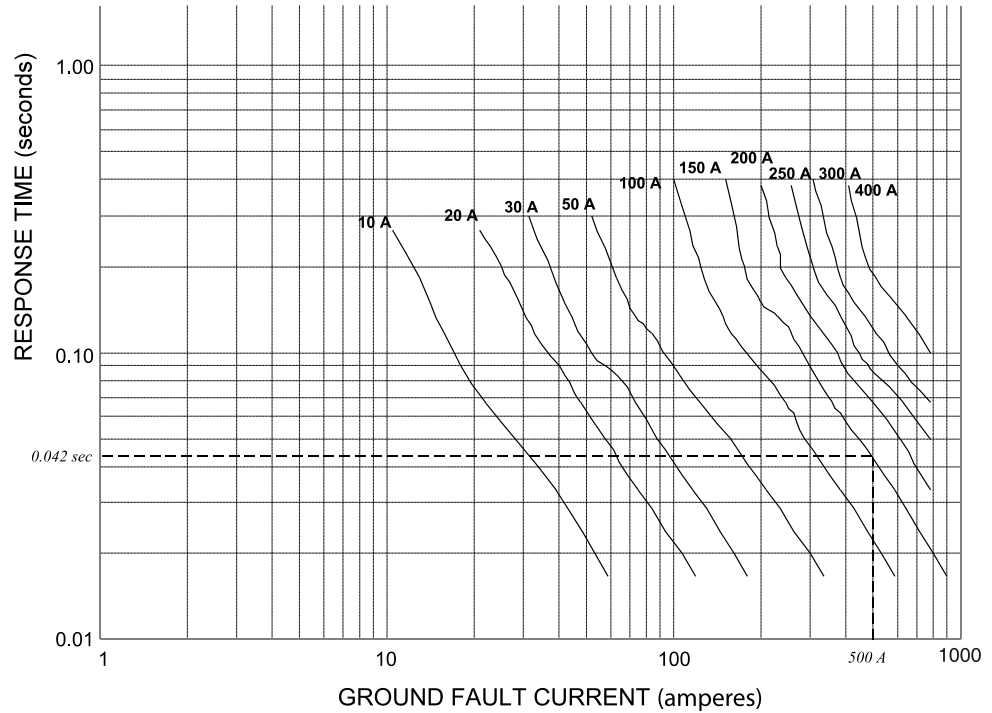
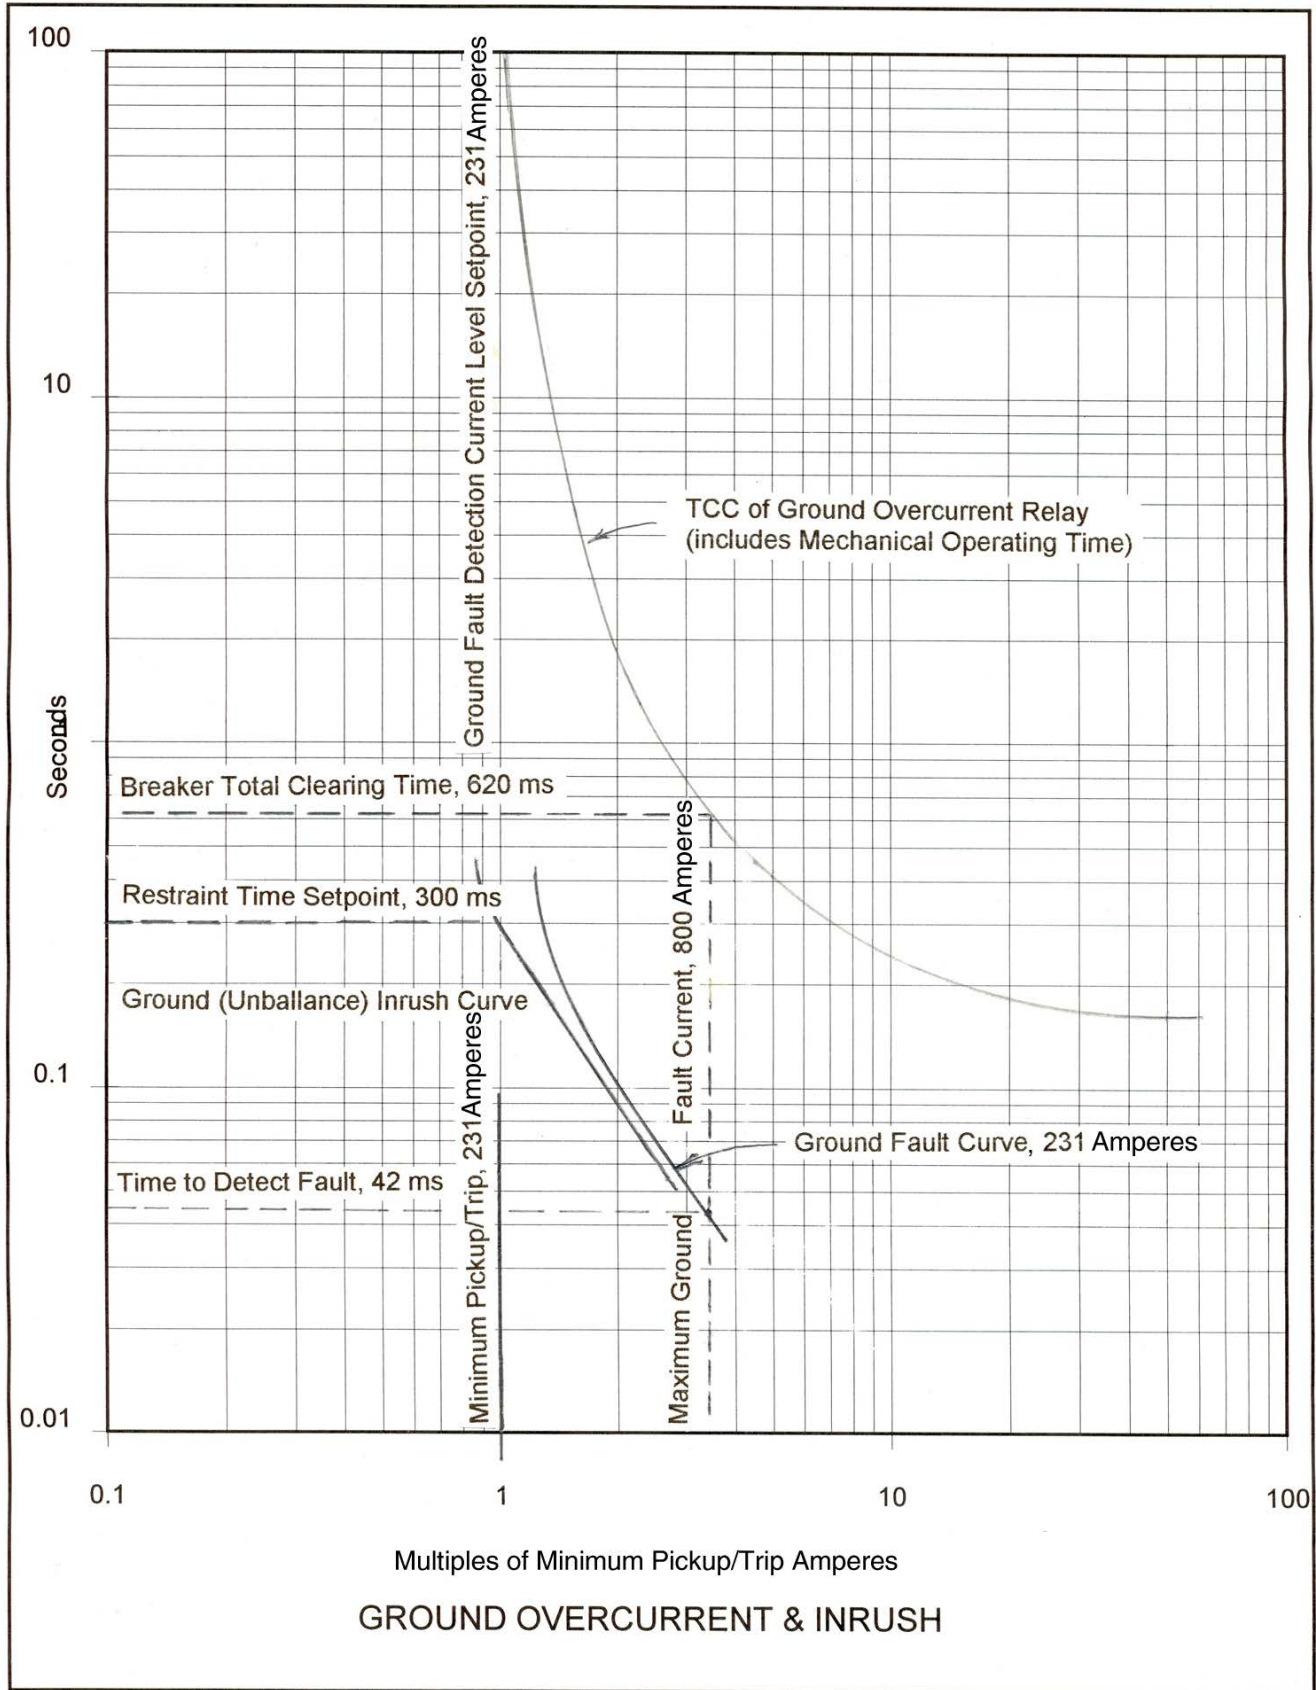

Figure 11. The Time-Current Characteristic curve for ground-fault detection.
Figure 13. Coordination Sheet for ground overcurrent and inrush.
of a shorter duration than the sampling rate will be detected. The net response of this circuit is similar to the Time Current Characteristic (TCC) curves of a protective relay. See Figure 11. The curves show that, with a **Ground-Fault Detection-Current Level** setting of 150 amperes, the control detects a 600-ampere fault in 34 ms. With a **Ground-Fault Detection-Current Level** setting of 231 amperes, the control detects an 800-ampere fault in 42 ms. See page 24 for guidance in generating additional ground curves by interpolation. The ground-fault detection characteristics are controlled by the **Ground-Fault Detection-Current Level** and **Ground-Fault Duration-Time Threshold** setpoints.
To determine the proper setting, review the source-side protective device's ground TCC curves for a range of fault duty, up to the maximum available ground-fault current at the sectionalizing switch. The control must be able to detect the fault prior to the source-side protective device tripping. See Figure 13 on page 24.
- (b) Find the control time-current coordination curve in Figure 11 on page 20 for that minimum ground-trip current.
- (c) Compare the TCC curves shown in Figure 11 to the TCC curve for the protective device. The curve for the protective device should include the mechanical-operating time. See Figure 13 on page 24. The switch control response time should be set less than 75% of the source-side protective device's total clearing time for fault-current values up to the maximum line-to-ground fault current at the control. To compare times, select several fault-current values between the **Ground-Fault Detection-Current Level** setpoint and maximum-available faults at the control. For each fault-current value selected, determine the response and clearing times from the TCC curves. In each case, the control-response time should be less than 75% of the source-side protective-device clearing time.
When the **Ground-Fault Current-Detection Level** value is not found on an existing curve, estimate the points and plot them on the coordination sheet (Figure 11) with the source-side protective-device TCC curve. When more accuracy is needed, interpolate the points between the nearest pair of curves. For example, to interpolate a 231-ampere point, the detection times for the 200- and 250-ampere curves at the specific fault-current level are needed. The 231-ampere point is the 200-ampere detection time plus the difference between the 200- and 250-ampere detection times multiplied by $(231-200)/(250-200)$.
Set the **Ground-Fault Duration-Time Threshold** setpoint to a value less than the source-side protective-device total clearing time minus the **Time-Block Inrush-Restraint** setpoint (if any) minus the time required to detect a ground fault. See the ground-fault current curves, Figure 11 on page 20, for the time required to detect a ground fault.